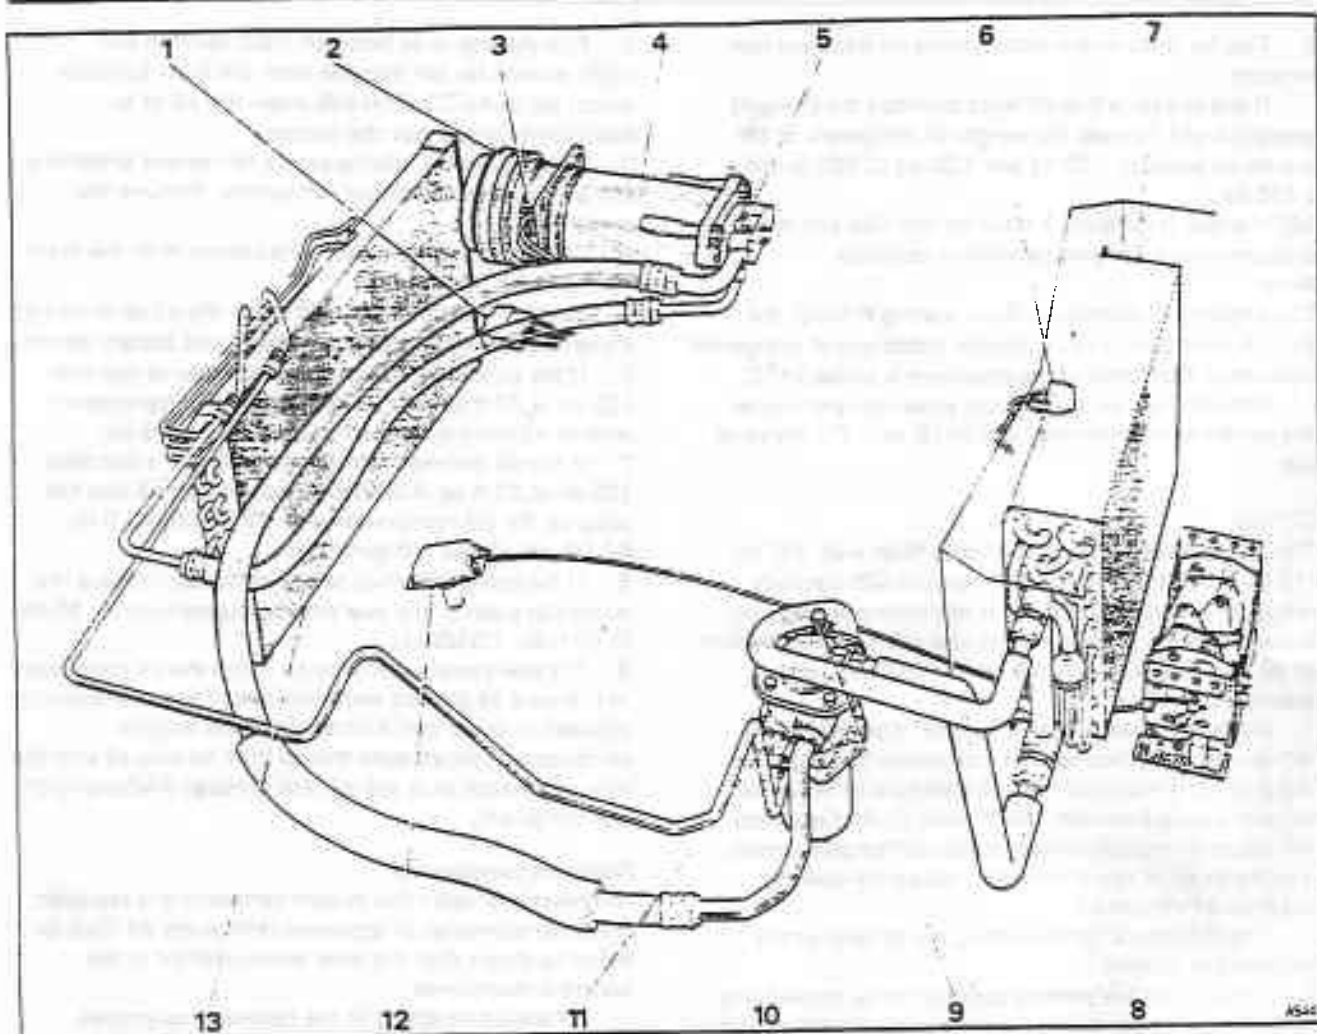

Fig. C6-4 Refrigeration system component lay-out
1. If the car is to be driven before repair work is carried out ensure that the compressor clutch is disengaged. This can be achieved by disconnecting the blue/yellow cable from the compressor ambient switch (see fig. C6-4).
Condenser (see fig. C6-4)
Compressor (see fig. C6-4)